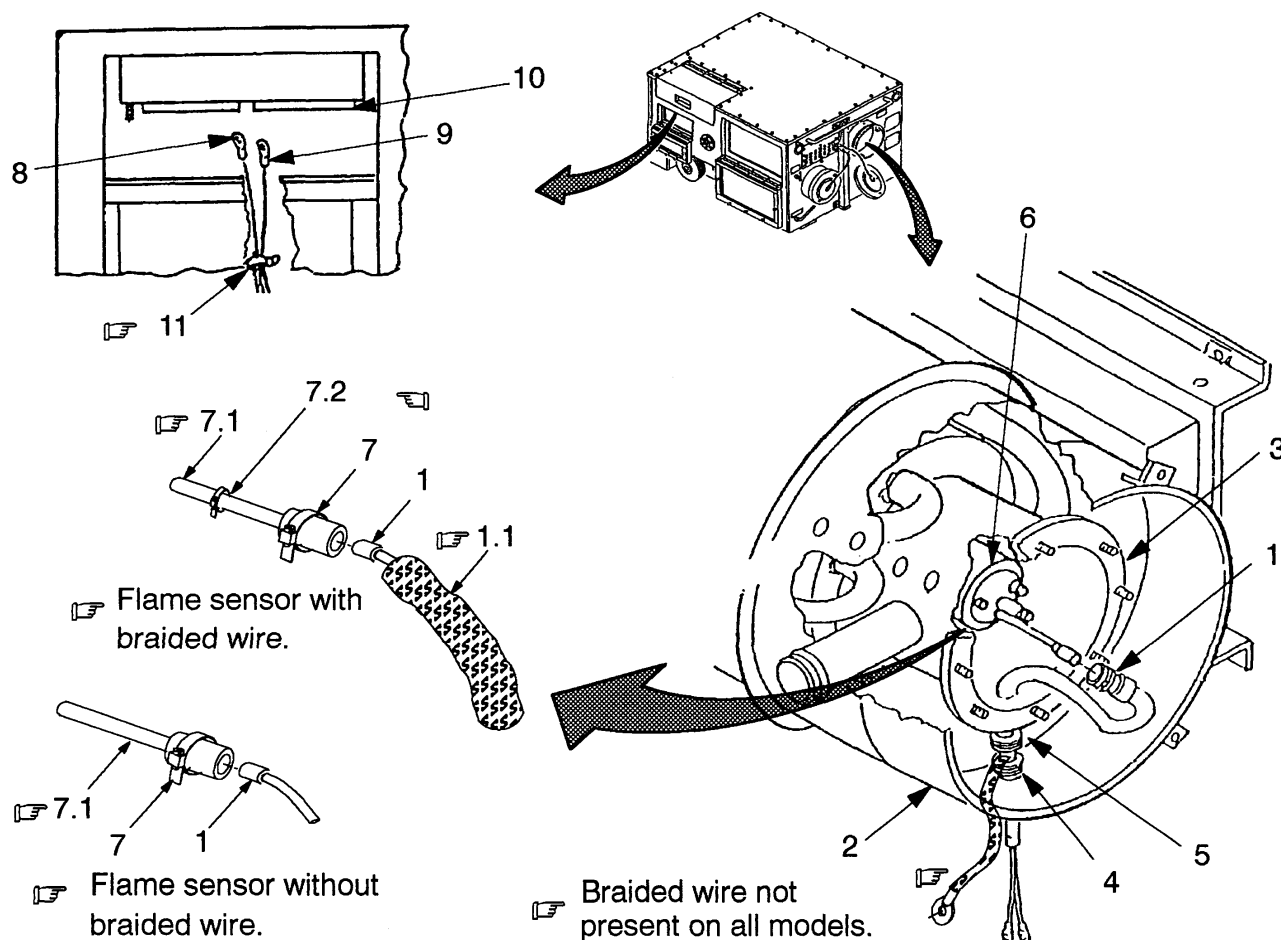

Figure 4-65. Flame Sensor Installation
*Flame Sensor* (Refer to Figure 4-65)
- (6) Insert wire end of flame sensor (1) through the bottom hole of heat exchanger shell (2) from the inside.
- (7) Insert eye end of the flame sensor (1) and braided wire (1.1), if attached, through the bottom hole of heat exchanger (3) from the outside.
- (8) Install grommet (4) in heat exchanger shell (2) and grommet (5) in heat exchanger (3).
- (9) Flame sensor (1) without braided wire; slide clamp (7) on tube (7.1) and install flame sensor into tube, secure with clamp.
- (9a) Flame sensor (1) with braider wire; slide clamps (7) and (7.2) on tube (7.1), install flame sensor into tube, slide braided wire (1.1) over tube and secure with clamp (7.2). Position clamp (7) over sensor (11) and braided wire (1.1) and secure.
- (10) Connect wires (8) and (9) as follows to TB3 (10). Install wire ties (11) as required.
- (a) Connect wire (8), TB3-6/D1-YEL to position TB3-6.
- (b) Connect wire (9), D1-YEL/TB3-7 to position TB3-7.